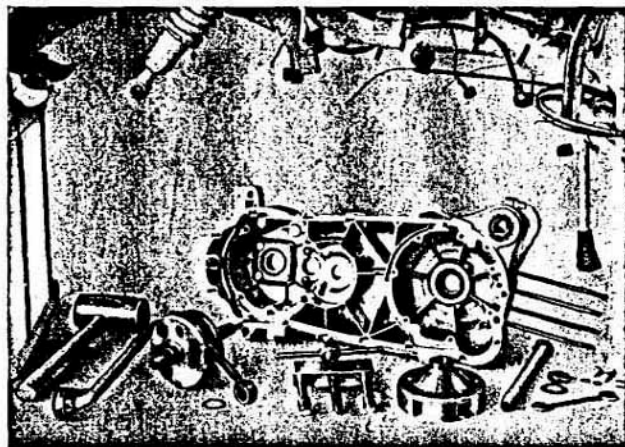

Fig. 22
- » 40 - To remove Crankcase from frame; remove gear change cable adjustment support by unscrewing its two screws (10mm spanner). Release clutch cable from its trunnion on clutch lever; open out tab washer or lock washer, extract split pin, unscrew nut (27mm spanner) and slide out crankcase silent bloc spindle. See Fig. 22.